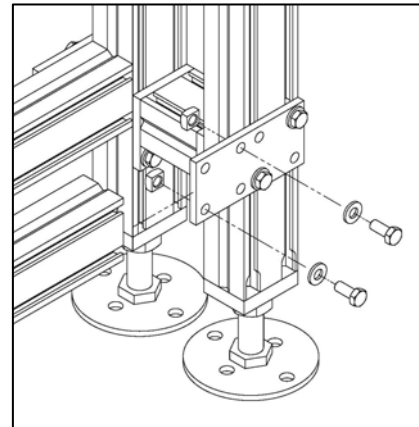

Figure 2
b. The Gusset Plate should be positioned over the Square Nuts in the channel and secured with the Hex Head Screws and Flat Washers (**Figure 2**). Although there are eight holes in the Gusset Plate, only four of them will be used.